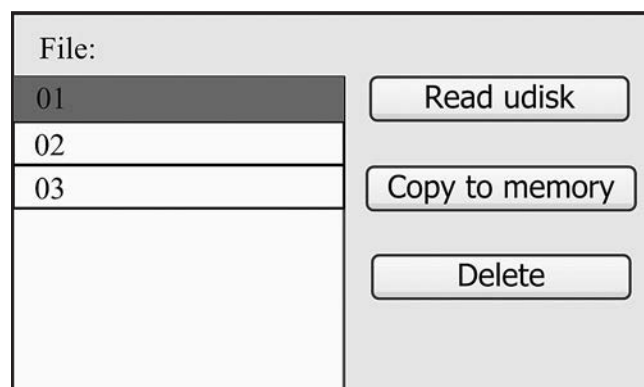

Figure 42. Example of Udisk+ screen.
- Screen will display files currently on USB flash drive (see **Figure 42**).